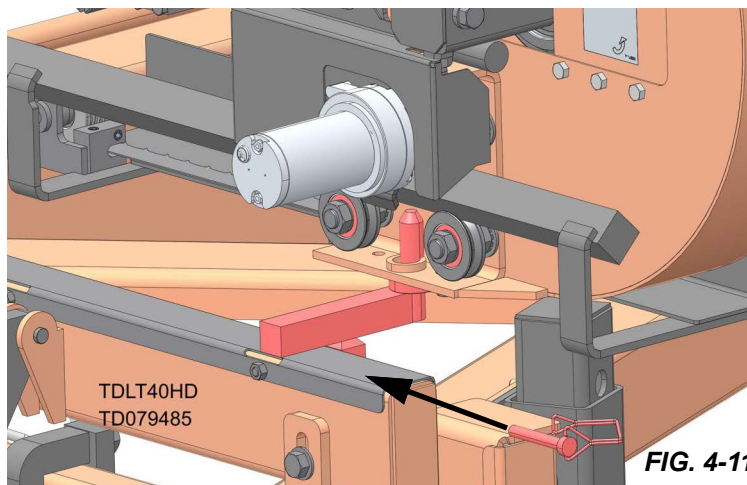

FIG. 4-11
10. Lower the saw head until it is seated firmly on the rest pin (shown in red on FIG.4-11).